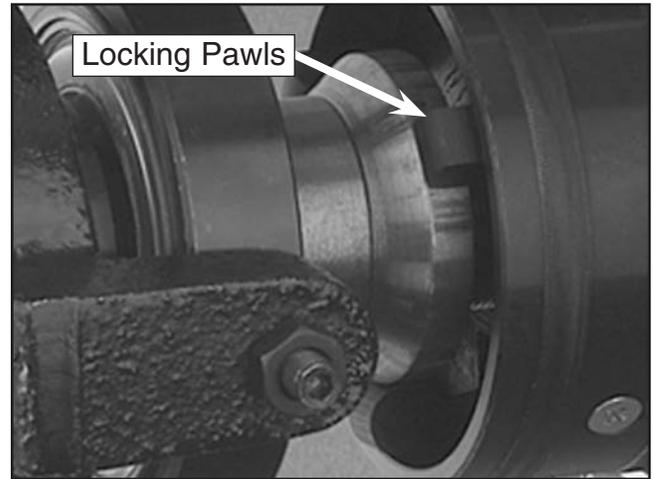

Figure 12. Locking pawls in locked position on the cam lobe.
1. Position the locking pawls so they are in the correct position on the cam as shown in **Figure 12**.
The Model G4026 Collet Closer is adjusted properly when the 3 collet locking pawls are tight on the cam and the workpiece will not twist in the collet. Again, **Figure 12** on **page 7** shows the proper locked position of the collet locking pawls around the cam.